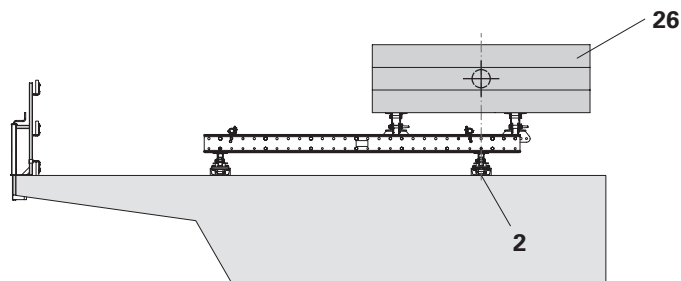

Fig. C1.03
3. Weigh the travelling unit down with ballast (**26**). (Fig. C1.03)
- Make sure that the centre of gravity of the ballast (**26**) is positioned above the rear heavy duty roller gear (**2**). (Fig. C1.03)